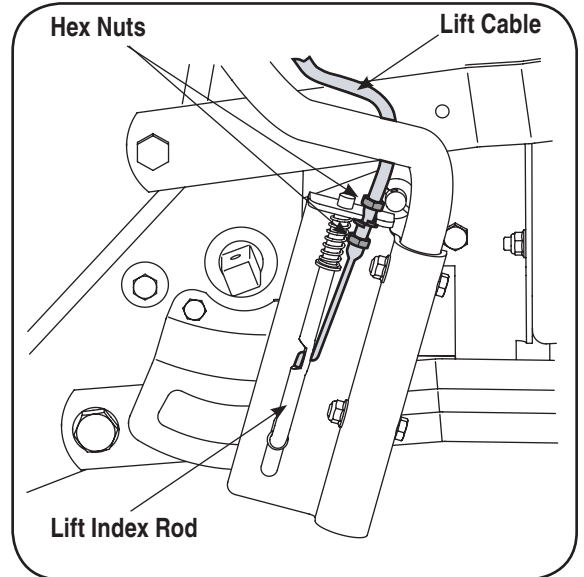

Figure 33
1. Loosen the upper hex nut a few turns, then tighten the lower hex nut to shorten the cable length. See Figure 33.
2. Loosen the lower hex nut a few turns, then tighten the upper hex nut to lengthen the cable. See Figure 33.